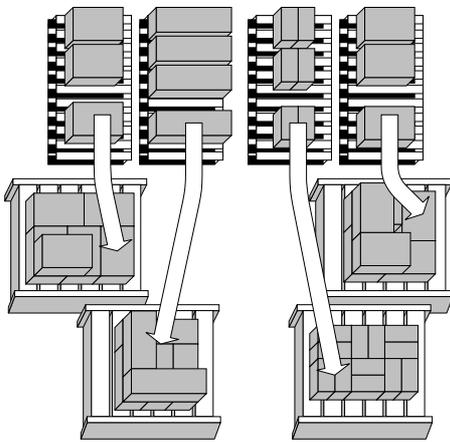

Figure 2.1 Duplicate handling function
- (1) In case of several palletes they can be loaded in same time.
- (2) Maximum 16 palletes can be loaded within robot's working area.
- (3) Refer to figure 2.1 & 2.3..